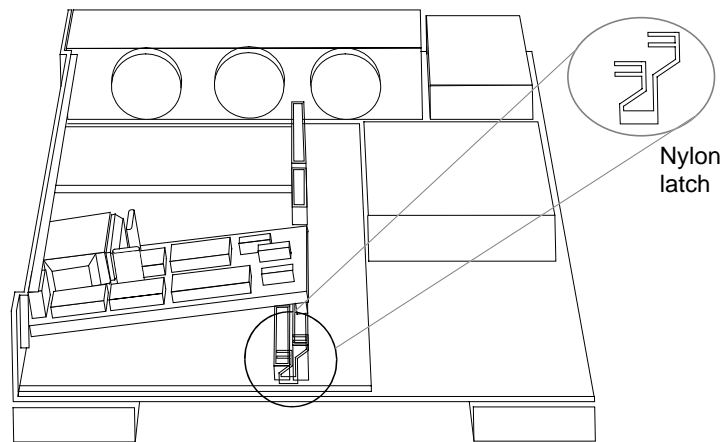

Figure 2-7. Placing the 4615 in a SPARCstation 10
- c.** Hold the adapter at an angle and insert it in the slot, as shown in Figure 2-7:
- e. Snap the back portion of the adapter into the nylon latches at each side of the adapter. Figure 2-7 on page 13 shows one of these latches.